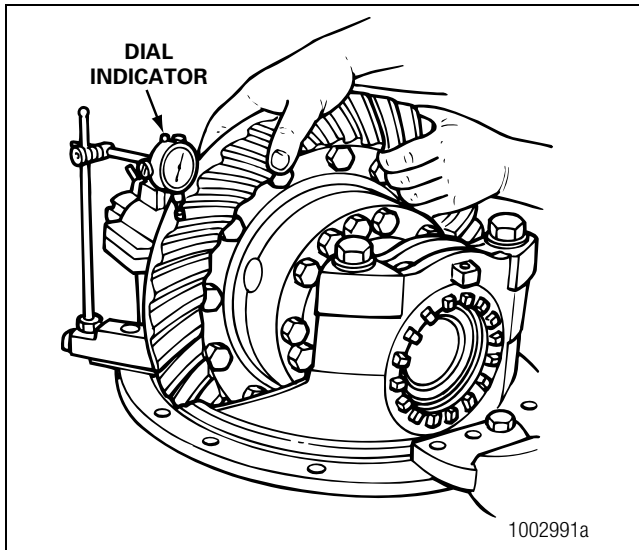

Figure 3.8
2. Measure and record gear set backlash. Figure 3.8. Refer to Step 1 through Step 4 under Ring Gear Tooth Contact Pattern, Backlash in Section 5 for instructions. Adjust backlash to the original dimension when you install the gear set into the carrier during assembly procedures.